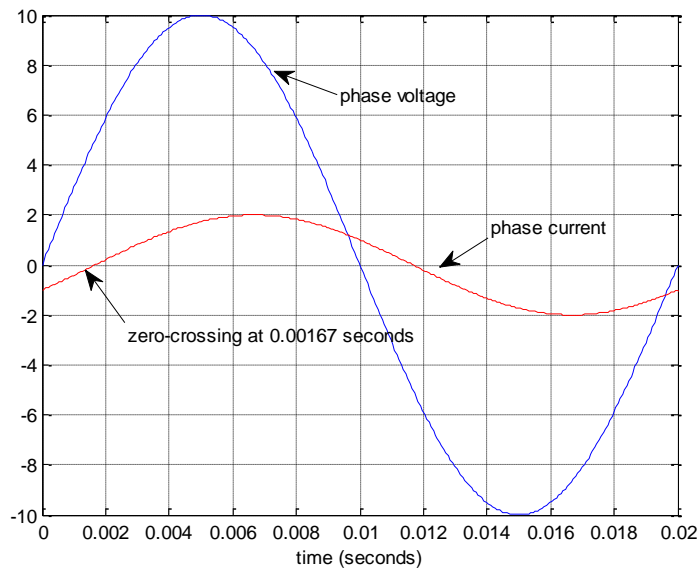
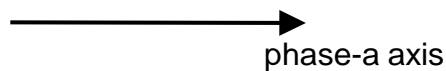

Fig. 4
Fig. 5
- (1) Please show the block diagram as you may implement in Simulink by using the d-axis voltage equation to solve for the d-axis current.
- (2) If, at time $t=0$ in Simulink, you want the d-axis flux linkage λ_d to be equal to the rotor peak permanent magnet flux linkage λ_{mpm} , How can you achieve this in your Simulink model?
- (3) In I/f control of the PM machine, should the current vector to be placed lagging the q-axis or should it be leading the q-axis? Please give your explanations.
- (4) In steady state, you observe the phase-a voltage and current waveforms are as shown in Fig.4 (10 V for voltage and 2 A for current peak values). In addition, at the moment when phase-a voltage crosses the zero from negative to positive, the corresponding rotor position found is -30 electrical degrees. Please add the voltage space vector, the current space vector and the rotor dq-axes to Fig. 5, which should represent the instantaneous waveforms shown at $t=0$ in Fig. 4.